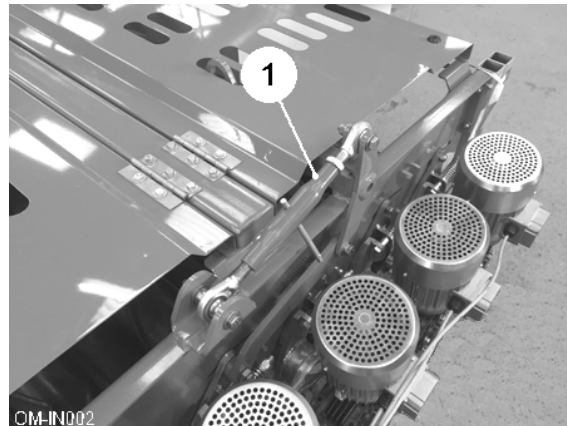

Fig 2
The relative height of the clod rollers to the scrolls is set by the top link (item 1, fig. 2). A hydraulic ram can be fitted in place of the top link.